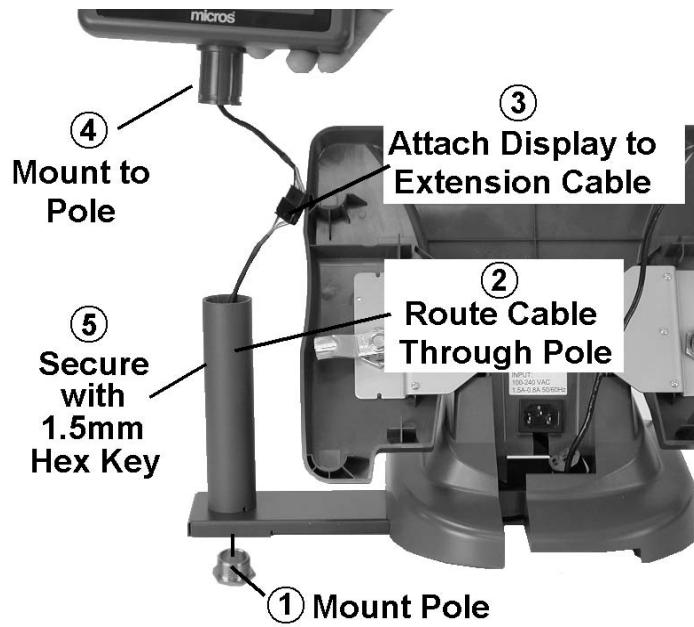

Figure 3-34: Assembling the Adjustable Stand Pole Display
3. Refer to the numbered steps in Figure 3-34 to attach the pole to the bracket, run the interface cable, and attach the LCD to the pole.